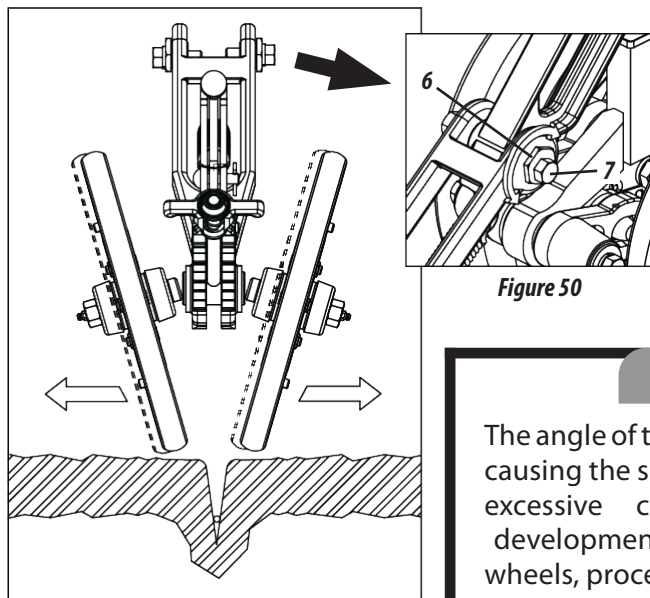

Figure 50
- 1- Loosen the screws (7), rotate the said bushings (6), with a wrench to actuate the wheels and align them with a groove, placing more or less soil on the side of the seed, **as shown in Figure 50.**